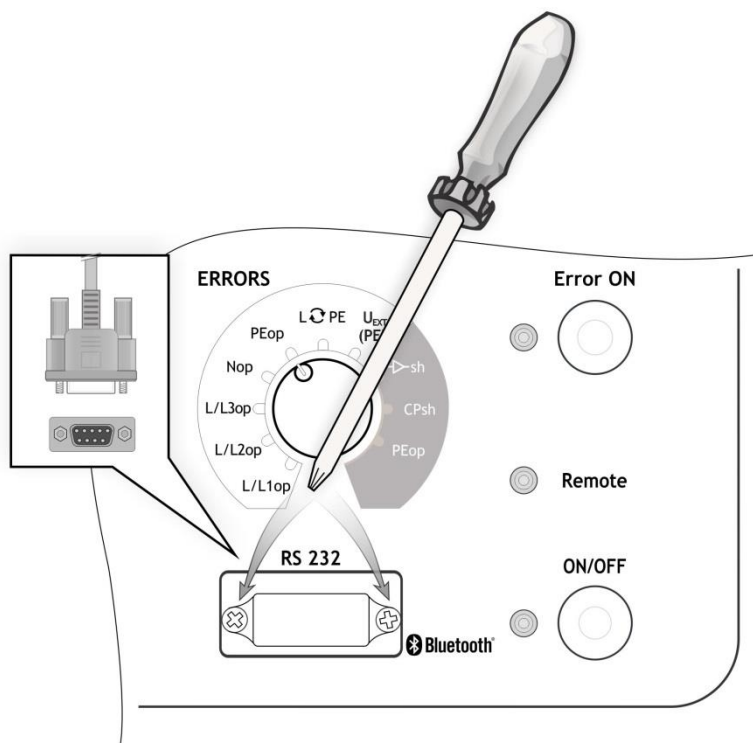

Figure 6.1: Upgrading the adapter
- › Unscrew two screws (as indicated in *Figure 6.1*) and remove RS 232 connector protection cover.